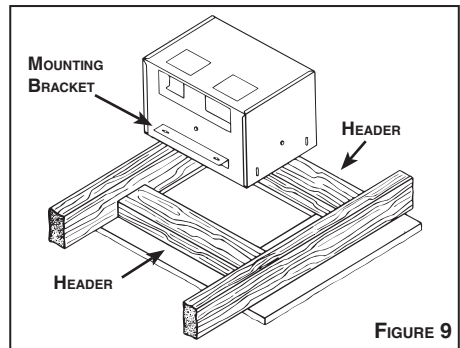

FIGURE 9
4. Refer to Figure 9. Mark cutout along marked line.